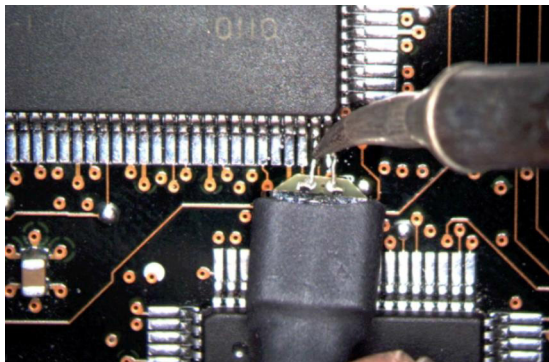

Figure 49 Positioning Wires
- 5 Position the probe head wires on the DUT leads and quickly re-flow the solder as shown in **Figure 49**.